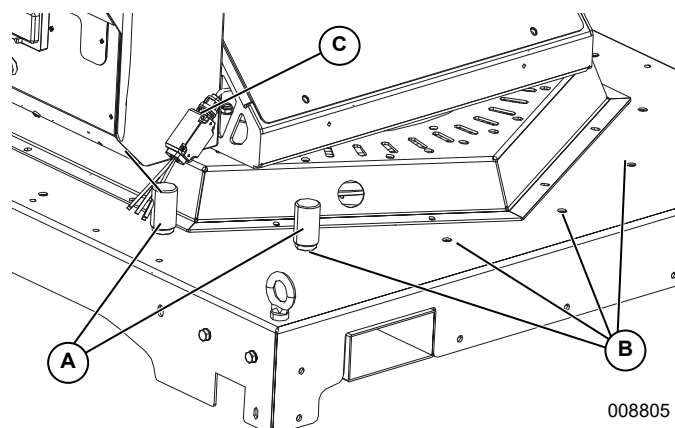

Figure 3-7. Automatic Oscillation
See Figure 3-7. When the oscillation system is set to ON, blower rotation is controlled by the placement of limiting pins (A). Oscillation range can be adjusted by moving limiting pins to any hole (B) in the deck. When micro switch (C) contacts a limiting pin the blower reverses direction.